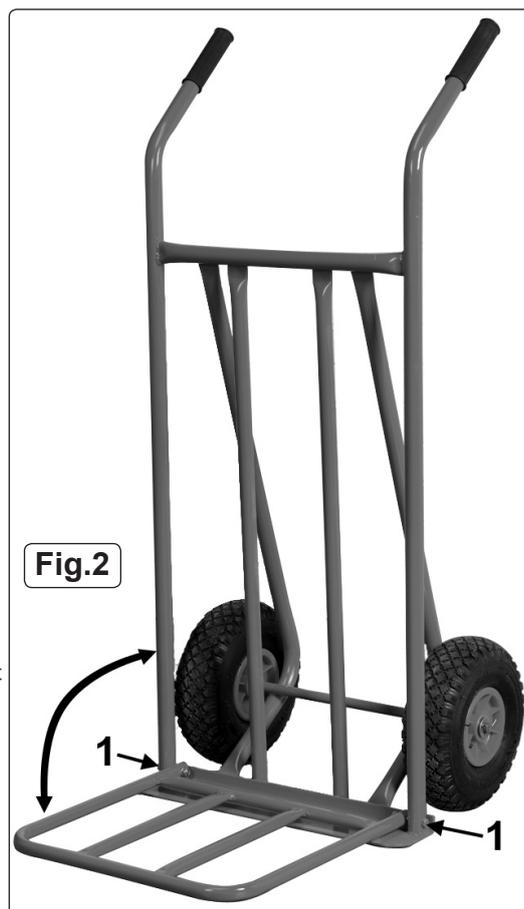

Fig.2
- 4.2 Fold down the toe plate ready to accept a load. (See fig.2)